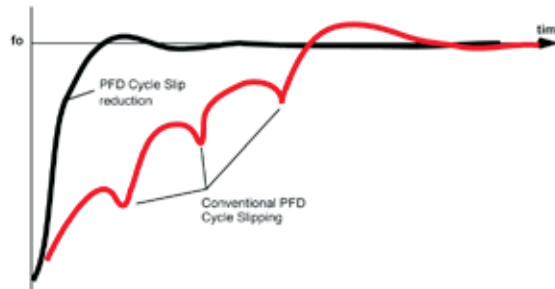

Figure 13. Cycle Slip Prevention (CSP)
When the VCO is not yet locked to the reference, the instantaneous frequencies of the two paths are different, and the phase difference of the two paths at the PFD varies rapidly over a range much greater than $\pm 2\pi$ radians. Since the gain of the PFD varies linearly with phase up to $\pm 2\pi$, the gain of a conventional PFD will cycle from high gain, when the phase difference approaches a multiple of 2π , to low gain, when the phase difference is slightly larger than a multiple of 0 radians. The charge on the loop filter small cap may actually discharge slightly during the low gain portion of the cycle. This can make the VCO frequency actually reverse temporarily during locking. This phenomena is known as cycle slipping. Cycle slipping causes the pull-in rate during the locking phase to vary cyclically as shown in the red curve in Figure 13, and increases the time to lock to a value far greater than that predicted by normal small signal Laplace analysis.
The HMC700LP4(E) PFD features an ability to virtually eliminate cycle slipping during acquisition. When enabled, the Cycle Slip Prevention (CSP) feature essentially holds the PFD gain at maximum until such time as the frequency difference is near zero. Cycle Slip Prevention, allows faster lock times as shown in Figure 13. The use of the cycle slip feature is enabled with *csp_enable* (see Table 14).